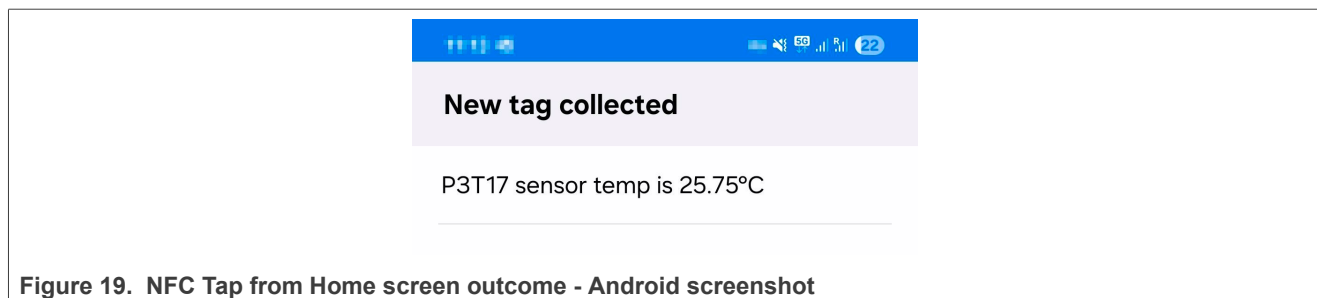

Figure 19. NFC Tap from Home screen outcome - Android screenshot
11. Browser opens - on the host cell phone to show the landing page, as shown in Figure 19